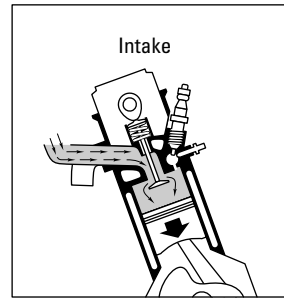

Figure 9-6: Intake stroke.
- ✔ **Stroke 1: Intake stroke (see Figure 9-6).** The **piston** descends, the **intake valve** opens, and air is drawn into the cylinder.